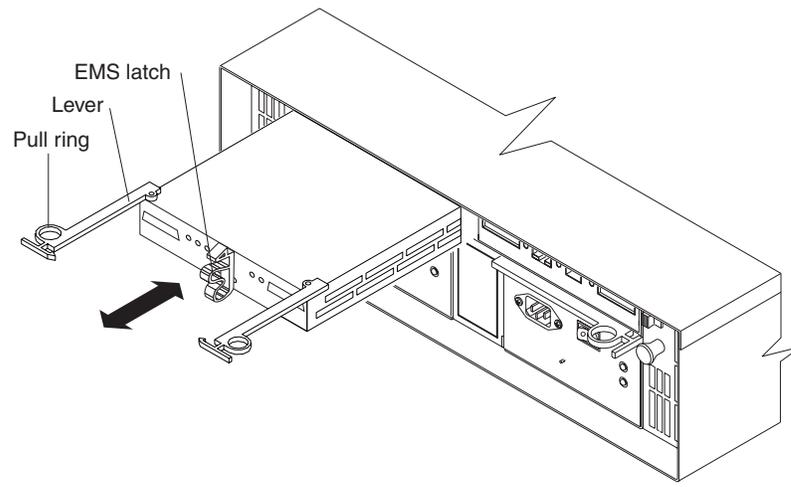

Figure 16. Replacing an ESM
1. Slide one ESM into the empty slot in the expansion unit. Be sure the levers are pulled straight out as you slide it in, as shown in Figure 16.